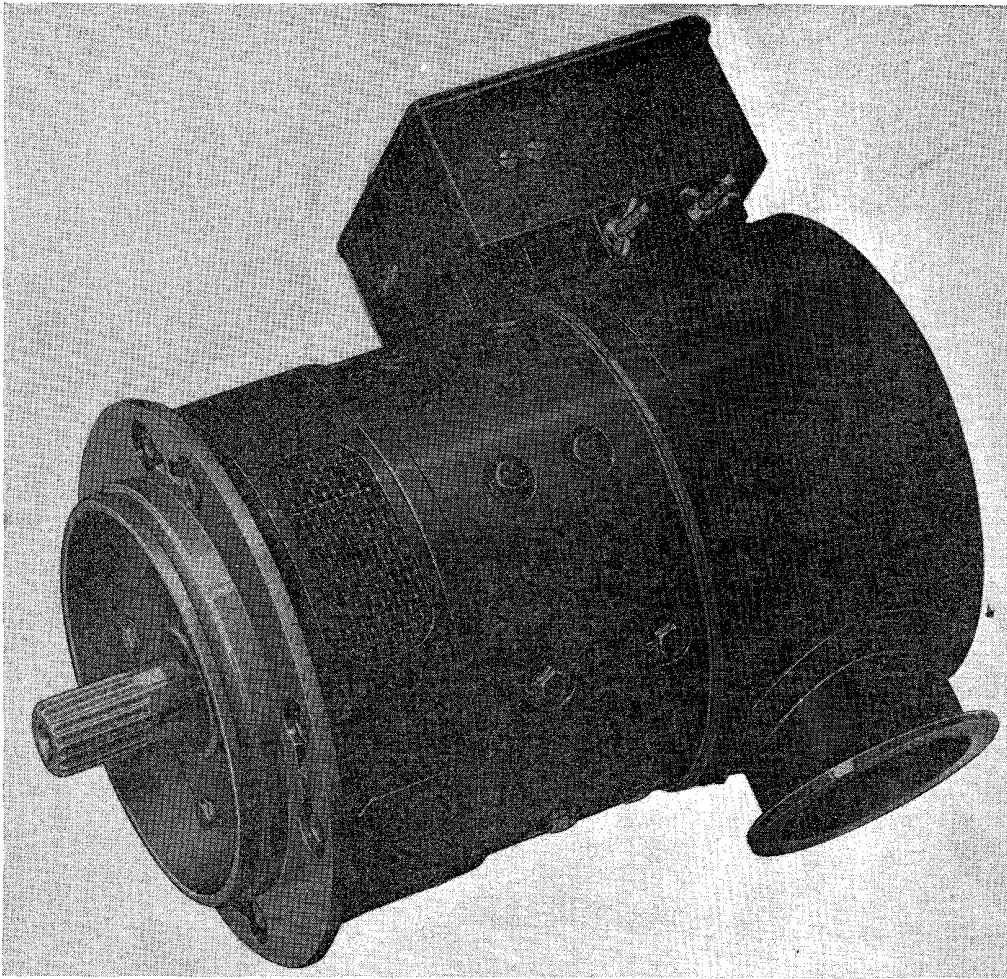

Fig. 1. Type 522 generator
2. The generator (fig. 1) is a four pole, shunt wound machine fitted with interpoles and compensating windings. The armature is wave wound on a laminated core having